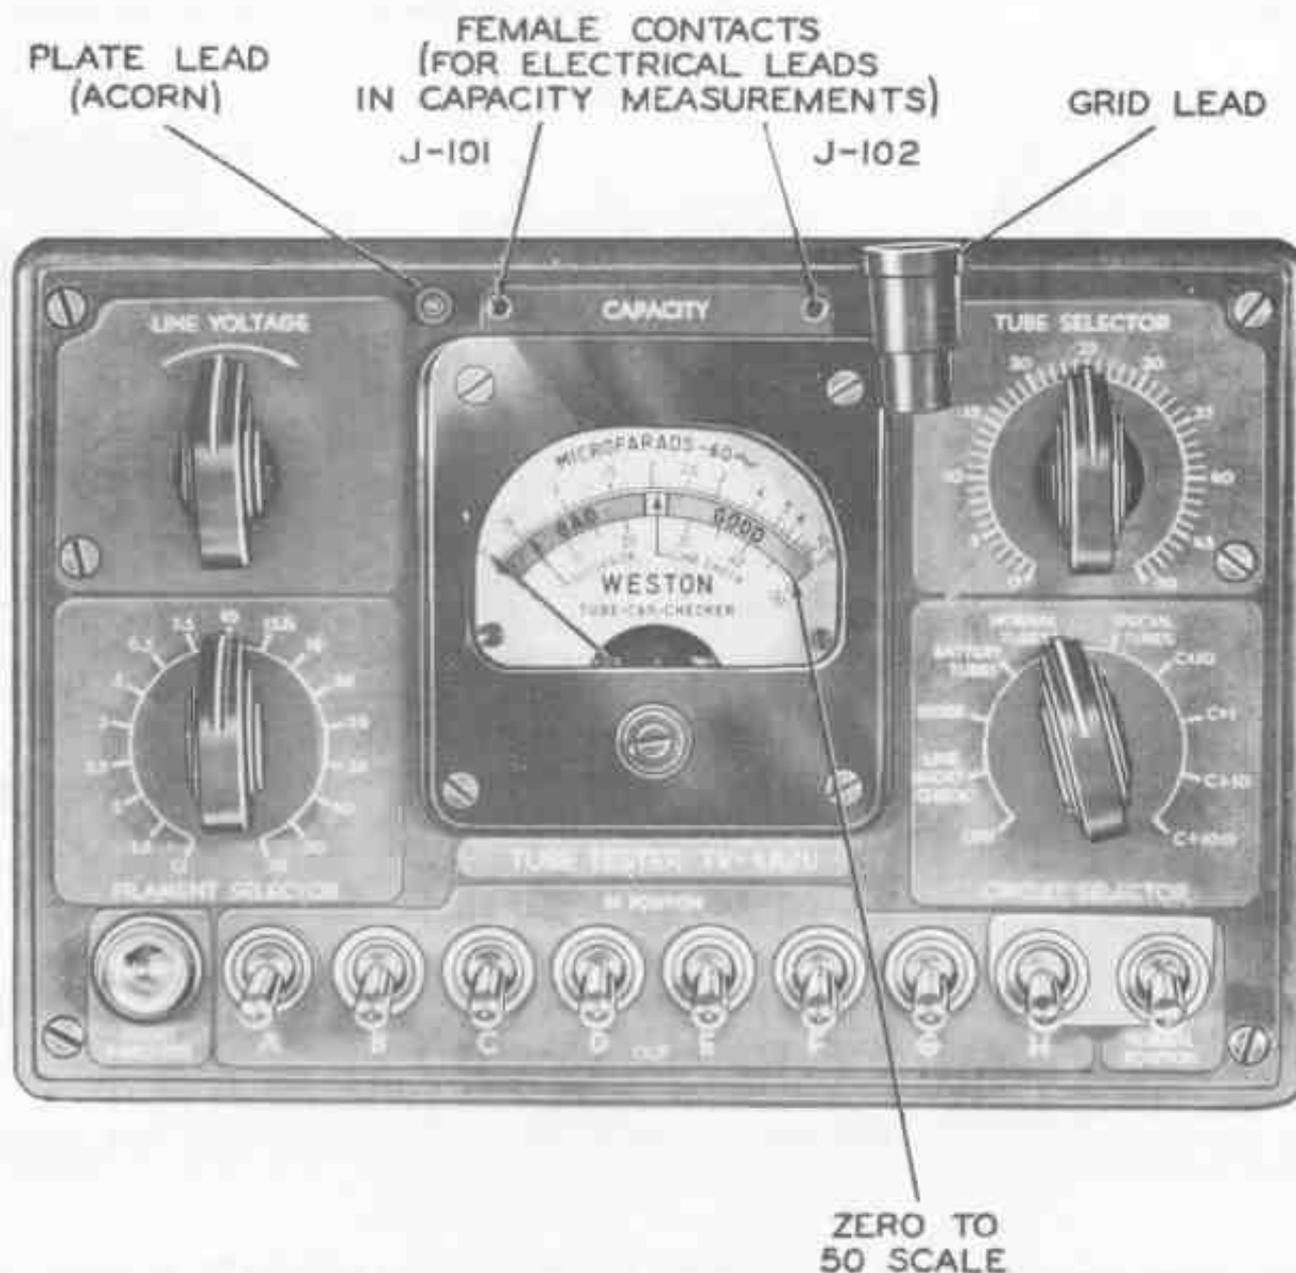

Figure 1-2. Tube Tester TV-4A/U, Identification of Controls on Control Panel
b. TUBE TESTER TV-4A/U. (See figure 1-2.) - This unit consists of a molded bakelite control panel on which are mounted the meter and all of the controls, a socket panel for all of the tube test sockets, and a wrap-around case enclosing the complete unit. Pin jacks are available at the top of the control panel for capacity readings in addition to all of the tube test functions. The complete assembly is mounted in a steel case and is pivoted on a full length hinge so that it can be raised into operating position through an angle of 45 degrees. The hinge is fastened to the front face of the Tube Tester and the front edge of the Case. A supporting arm, hinged at the bottom of the Case, holds the Tube Tester at a 45-degree angle when it is pivoted into position for operation.